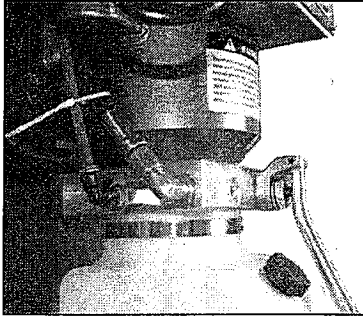

Fig. 18
1. Screw the L-fittings on the valve block. (Fig. 18)